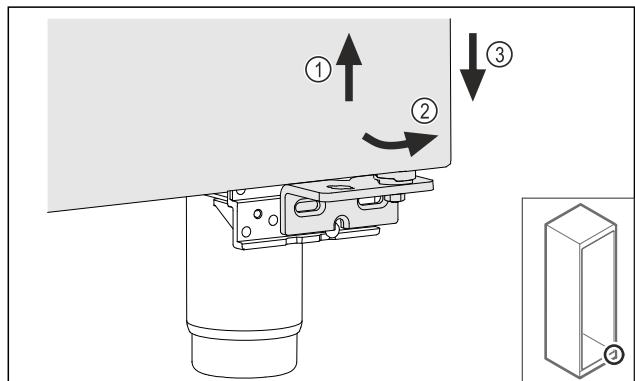

Fig. 19
- Lift the door slightly *Fig. 19 (1)*, tilt it forwards at the bottom *Fig. 19 (2)* and lower it *Fig. 19 (3)*.